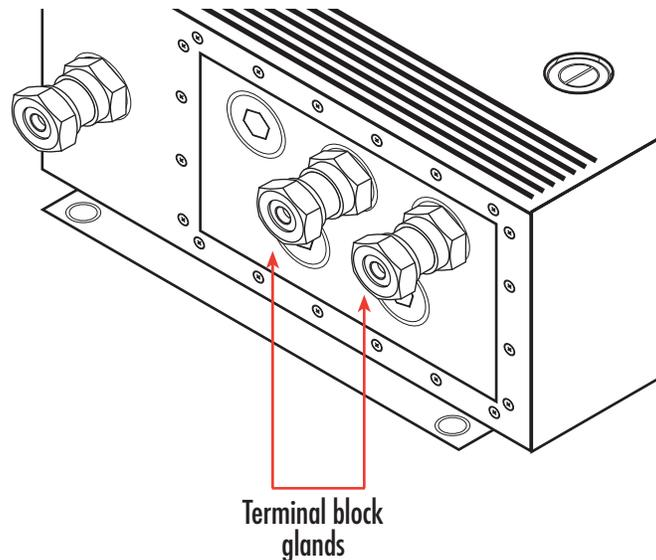

Figure 7. Glands designated for the terminal block
You should run the twisted pair wires through the brass glands that are placed on the right on the bottom panel of the EnviroNET. (See figure 7). The steps to wiring the terminal block include: running the twisted pair wires through the gland, and connecting the twisted pair wires to the EnviroNET unit.
1. Locate the glands that the twisted pair wires should run through. (See figure 7).